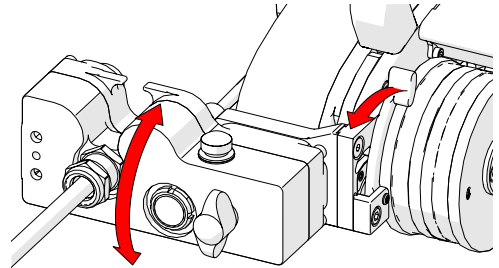

Fig. 87 - Adjust umbilical mount angle
4. The right drive module's umbilical mount can pivot to allow low profile scanning. Use the lock lever to position the umbilical mount at the desired angle (Fig. 87).